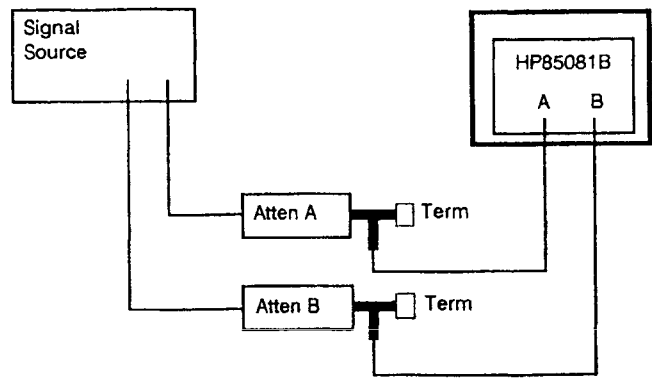

Figure 4-7. Voltage Ratio Accuracy Test Setup
1. Configure the Test equipment as shown in Figure 4-7.